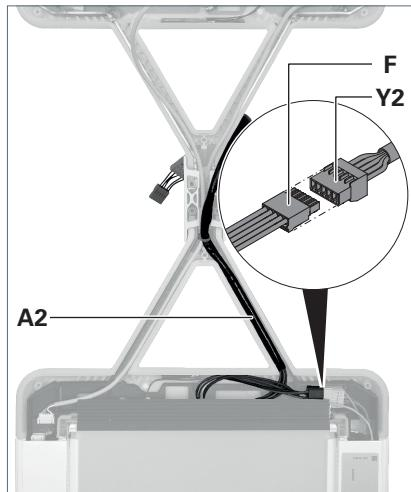

Fig. 13: Connecting the supply cable.
- ▶ Lay the supply cable **A2** of the stranded wire set into the supporting arm of the luminaire head 2, see Fig. 13.